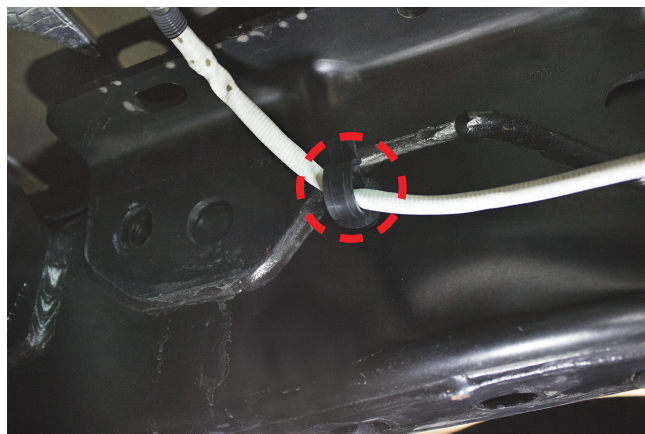

Fig. 26
5. To install the passenger's (right) side upper brace (F) locate the clip (red circle Fig. 26) that holds the wiring harness for the O2 sensor. Remove and discard the clip as it will no longer be needed.